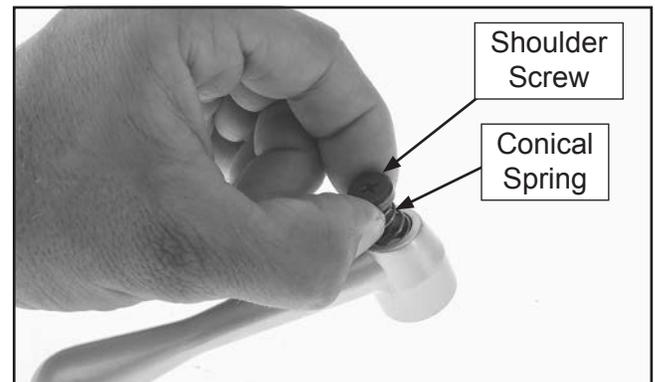

Figure 4. Installing shoulder bolt and conical washer into lock handle.
2. Place M5-.8, 7 x 9 shoulder screw with conical washer into end of lock handle (see Figure 4).